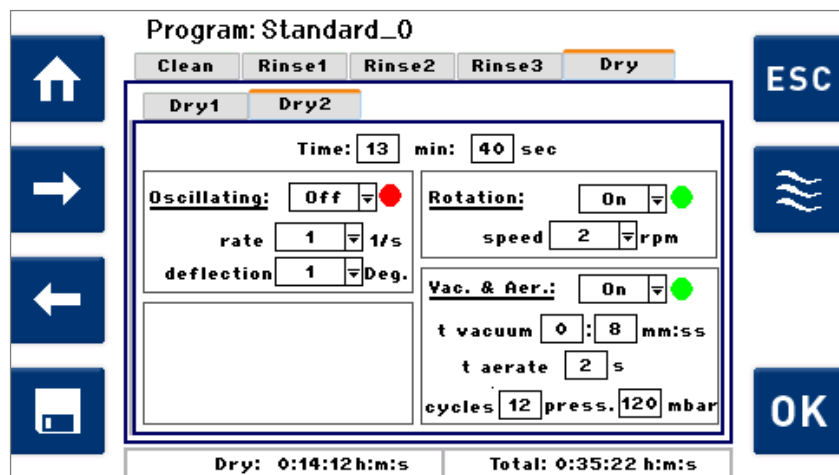

Fig.16.6 Screenshot of the options for Dry2.
Under consideration of the elementary physical boundary conditions of the vacuum drying described above, selection of the vacuum drying parameters, adjusted for the respective drying task, of the sequence Dry2 (*Fig. 16.6*) using Expert Mode is recommended.
The programmable vacuum drying parameters in the sequence *Dry2* (Fig. 16.6 bottom right) determine the
- further duration of the evacuation, measured from reaching the specified pressure (8 seconds, 120 mbar in Fig. 16.6), with which even lower pressures on the pressure-time curve $p(t)$ in the cleaning chamber are reached when the vacuum pump is running,
- duration of the reeration by opening the vent valve of the cleaning chamber for the ambient normal pressure (2 seconds in Fig. 16.6) while the vacuum pump continues running (for the purpose of maintaining the flow of the supported vapour mist extraction for the cleaning chamber),
- number of repetitions of this cycle of evacuation and reeration (12 times in Fig. 16.6).